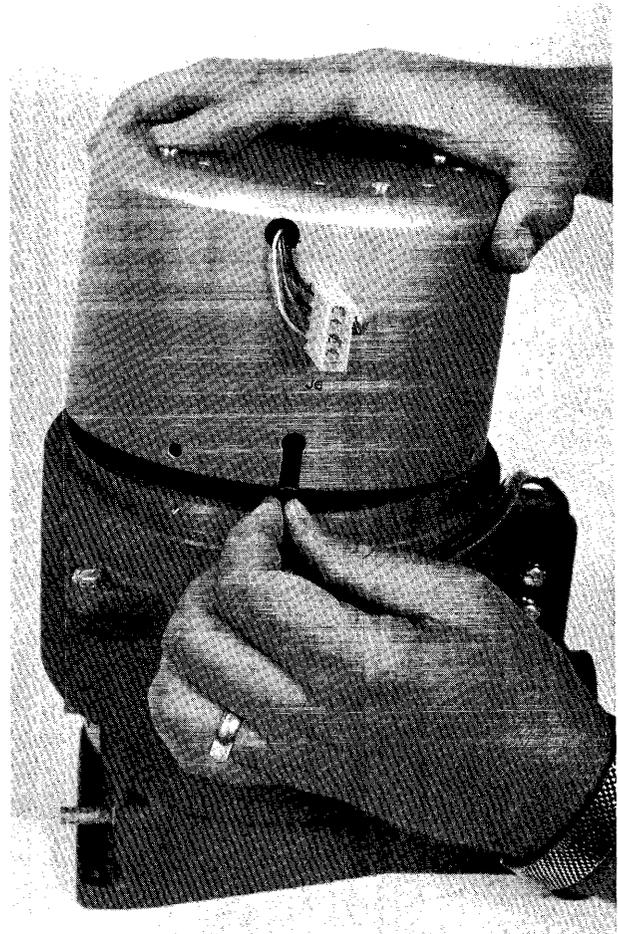

Figure 6-27
Step 3: Remove the four cover retaining screws and remove the cover while holding the motor leads and grommet so that they slide out of the slot at the lower edge of the cover as shown in Fig. 6-27.